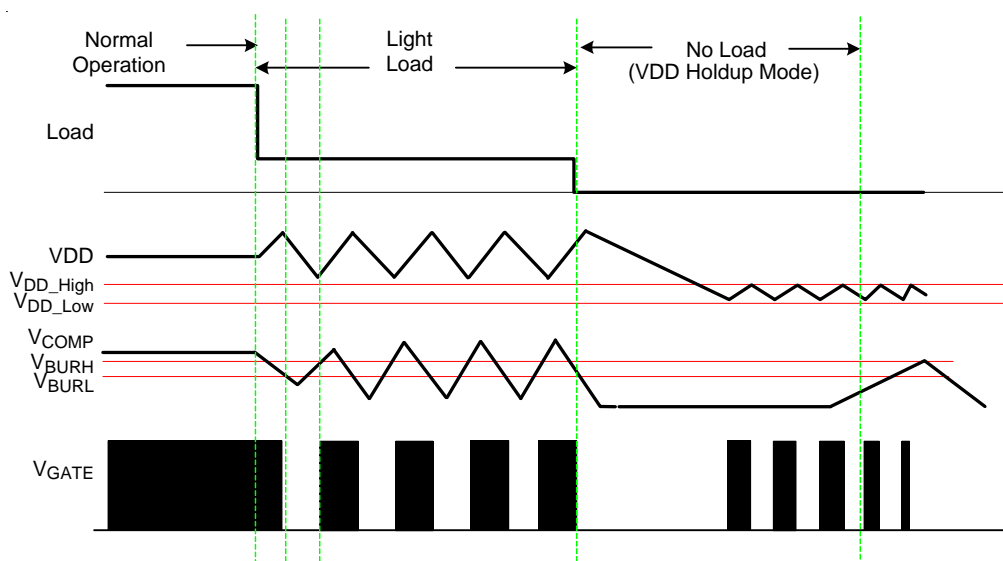

Figure 3. Burst Triple-Mode
To fulfill green mode requirement, there are 3 operation modes in R7730. Please also refer to Figure. 3 for details.
- **Burst Mode** : During light load, switching loss will dominate the power efficiency calculation. This mode is to cut switching loss. As shown in Figure 3, when the output load gets light, feedback signal drops and touches V_{burL} . Clock signal will be blanked and system ceases to switching. After V_{OUT} drops and feedback